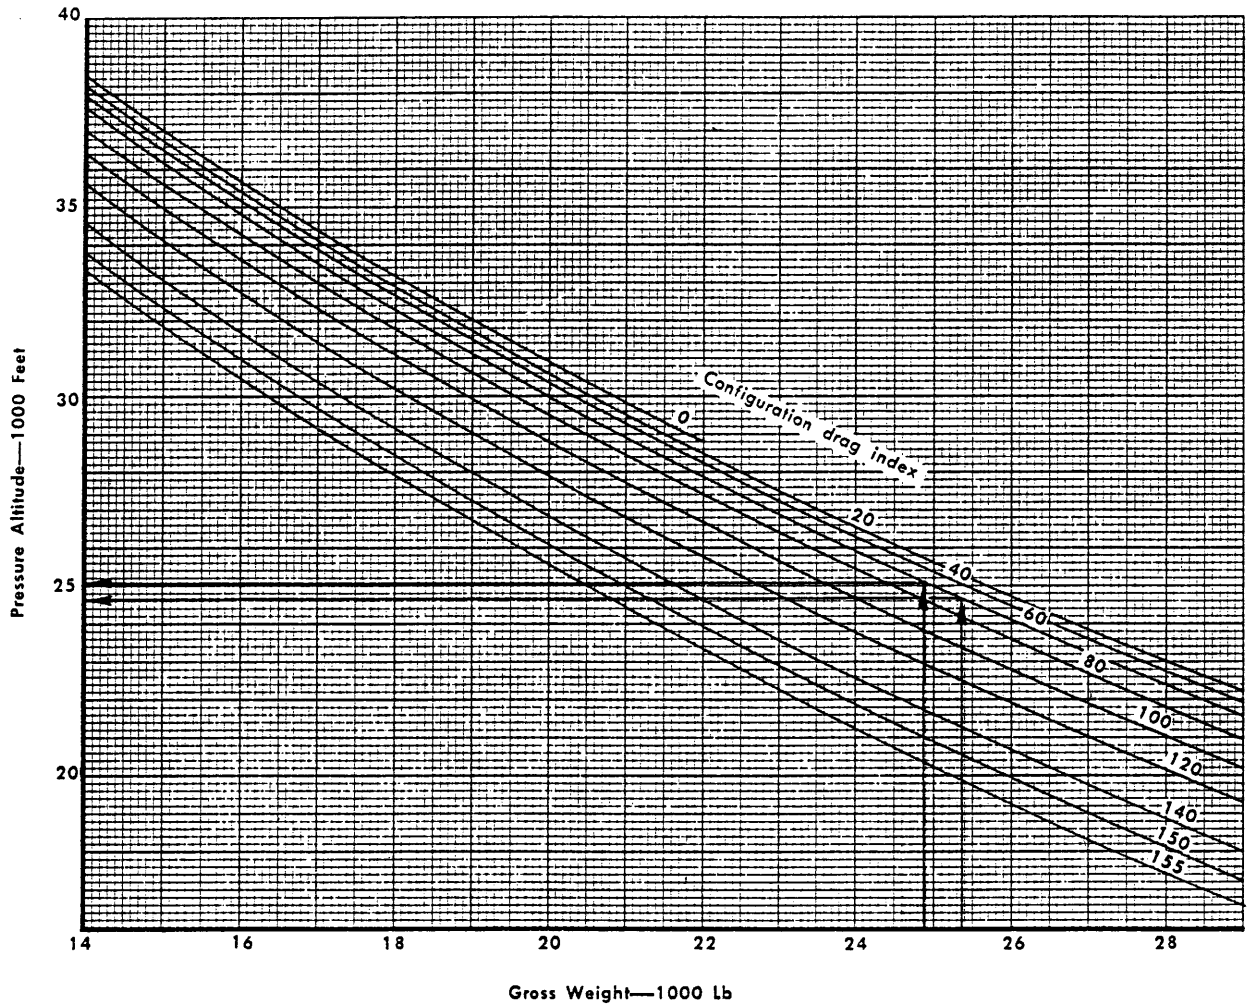

Figure A3-5
- b. Enter Figure A3-5, "Optimum Cruise Altitude", at the initial climb gross weight, 25310 lb, and read an estimated altitude, 24700 feet.
- d. Reenter Figure A3-5 at 24860 lb and read a corrected optimum cruise altitude, 25100 feet.